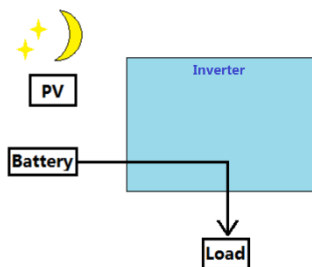

Figure1-11
3. When PV is insufficient, Batteries supply power to the load.(Figure1-11)